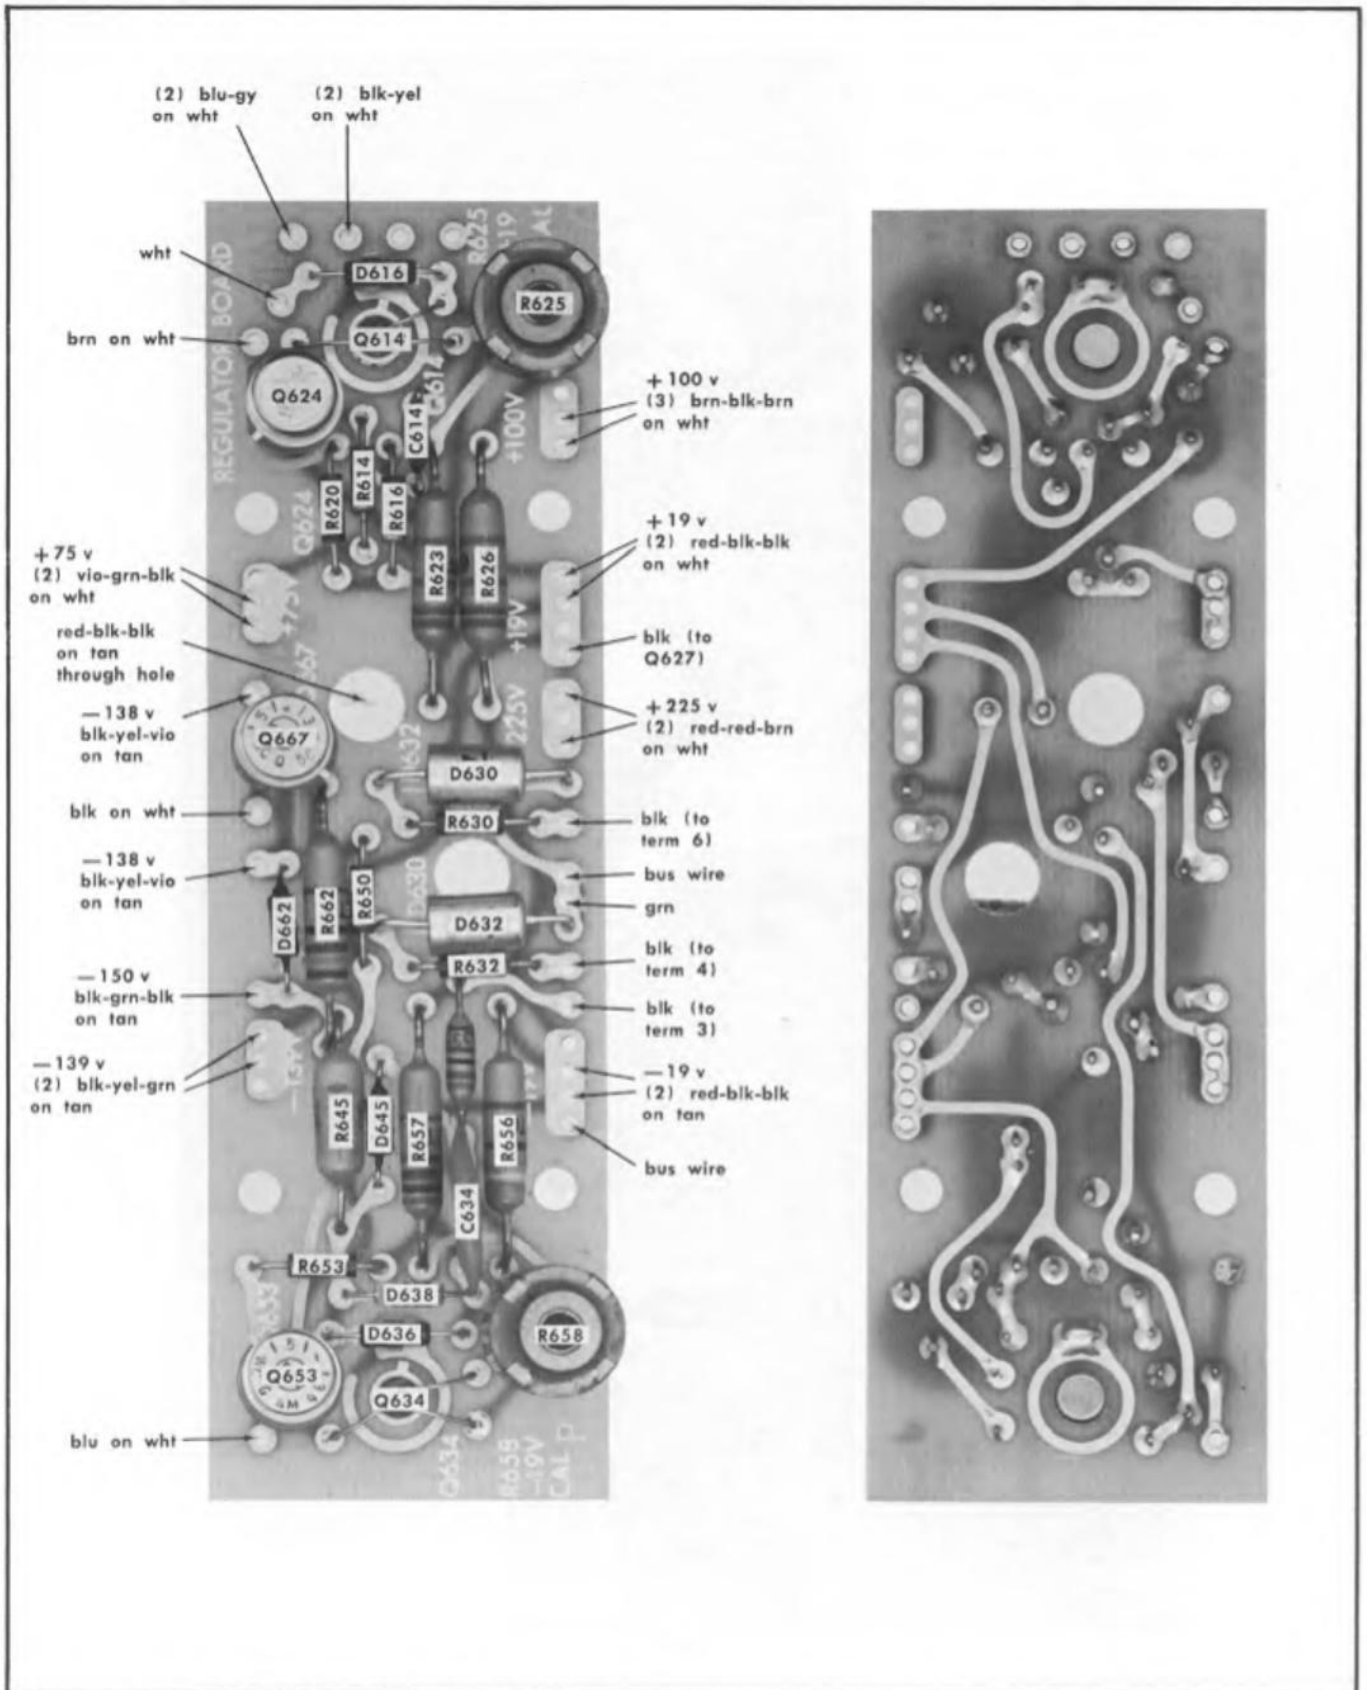

Fig. 4-3. Circuit component locations and wiring color-code on etched-wiring REGULATOR BOARD: (A) front side; (B) reverse side.
2. Resolder all wires to the board according to the soldering technique described previously. Wire locations and color-coding of all wires are shown in Figs. 4-3, 4-4 and 4-5.
Etched-Wiring Boards. Due to the high-density spacing of components on the etched-wiring boards, only a few component circuit numbers are printed on the boards. However, all components and connections on the boards are shown in Figs. 4-3 through 4-5. Test points can be located where they connect to one or more of the components.